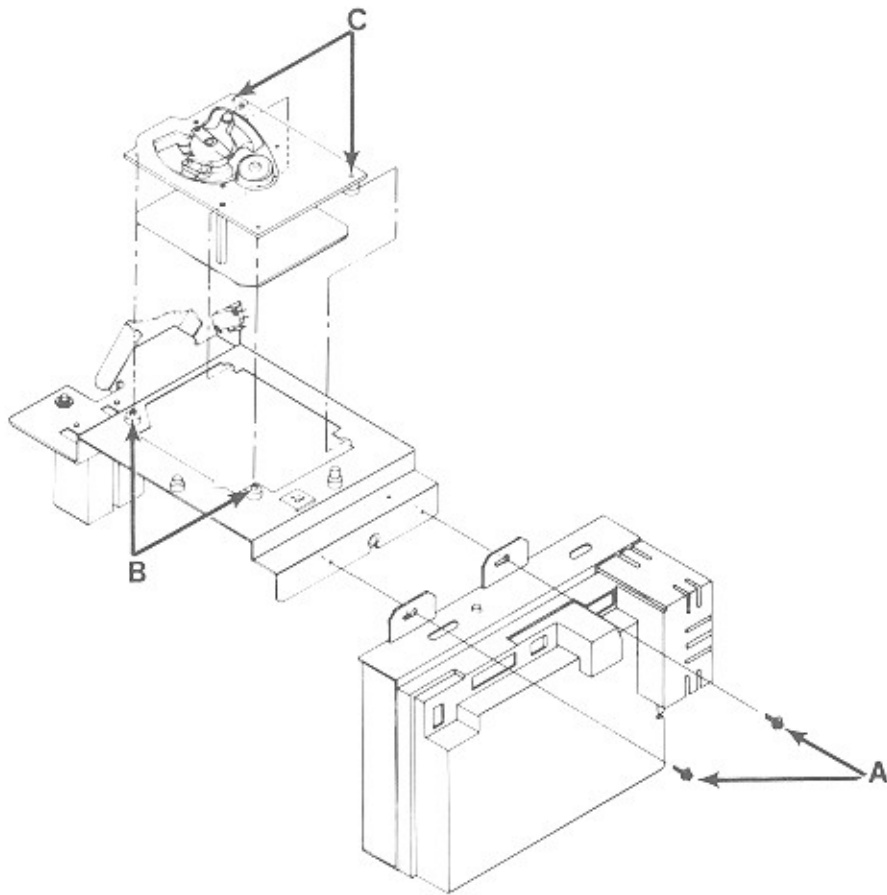

Figure 6-1. Removing the CD Player
2. Remove all connectors from the mechanism control unit, loosen the two top screws (*figure 6-1, ref. A*), and remove the mechanism control unit.
Loosen the two front mounting screws (These screws remain part of the phonograph. *See figure 6-1, ref. B* on the underside of the CD player mounting plate.